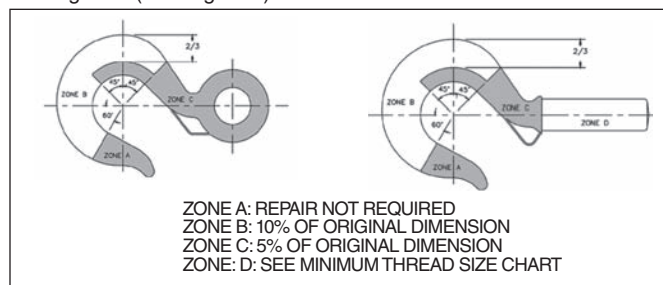

Figure 1
- Remove securement nut to inspect or to replace S-322, S-3316, and S-3319 bearing washers (2).
- Remove from service any hook with a crack, nick, or gouge. Hooks with a nick or gouge shall be repaired by grinding lengthwise, following the contour of the hook, provided that the reduced dimension is within the limits shown in Figure 1. Contact Crosby Engineering to evaluate any crack.
- Never use a hook that is worn beyond the limits shown in Figure 1.
- Always make sure hook supports the load. The latch must never support the load. (See Figure 1 & 2)